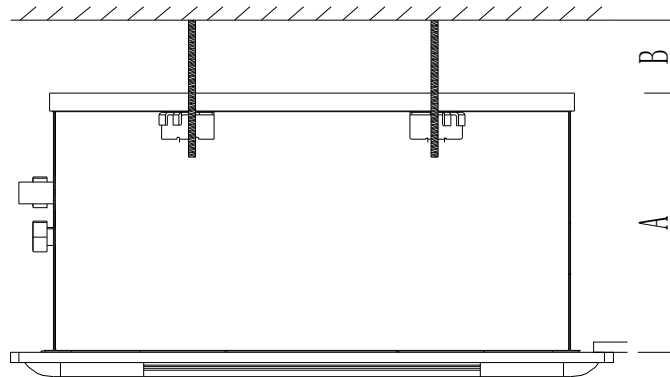

Figure B.6.1
- Confirm height between the bottom of upper deck and top of ceiling is sufficient for installation. (Figure B.6.1)